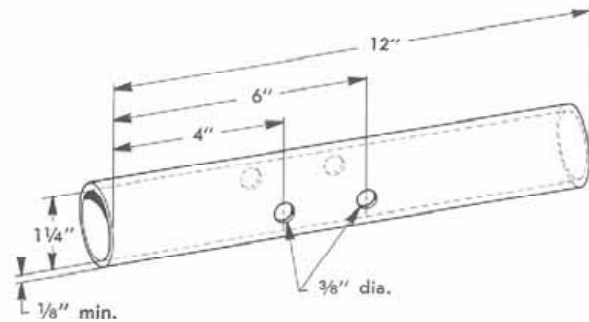

Figure 13:
15. Fabricate three (3) lift stand extensions as shown (Fig. 13), using one and one-fourth inch (1-1/4") inside diameter iron tubing with a MINIMUM wall thickness of one-eighth of an inch (1/8").